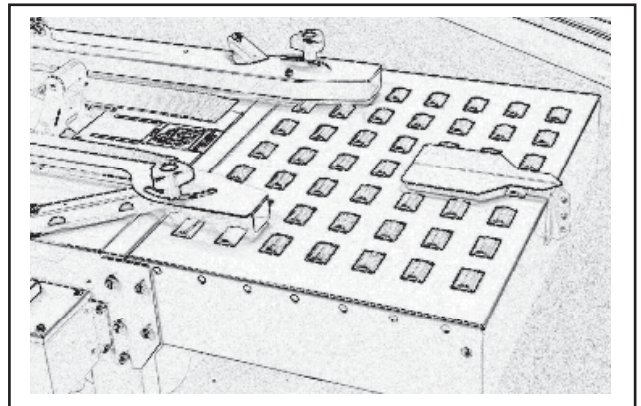

Figure 1— Box Hold Down Attachment Installed on Case Sealer Infeed Conveyor Attachment
1. Refer to Parts Illustration, Figure 1 (back page), to find part needed and reference number.